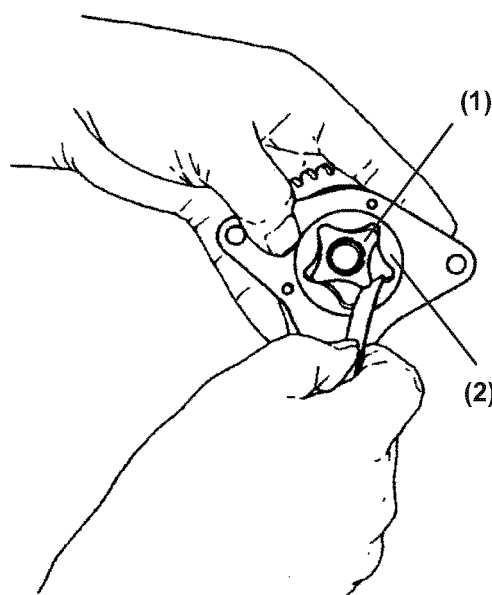

Figure 9-6
Inspect the tip clearance between the outer and inner rotors. To inspect this, insert a feeler gauge between the inner rotor tooth tip (Figure 9-6, (1)) and the outer rotor tooth tip (Figure 9-6, (2)), and measure the clearance.